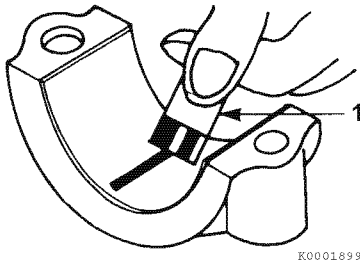

Figure 6-56
- 6- Compare the width of the flattened PLASTIGAGE to the graduation marks on the package (**Figure 6-56, (1)**). The mark that most closely matches the width of the flattened PLASTIGAGE will indicate the bearing oil clearance.